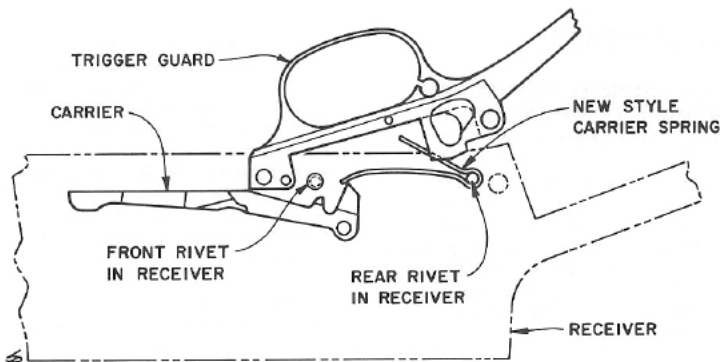

FIGURE 5-A
- Place the Carrier Spring over the rear Carrier Spring Rivet as with the older model Carrier Spring. The short end should be left free as in Figure 5-A.